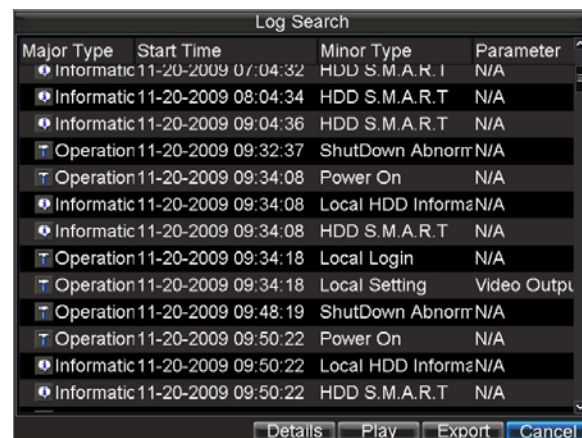

Figure 16. Log Search Results
3. Click the *Search* button to start search. If logs matching the search conditions are found, it will be displayed in a list of search results as shown in Figure 16.